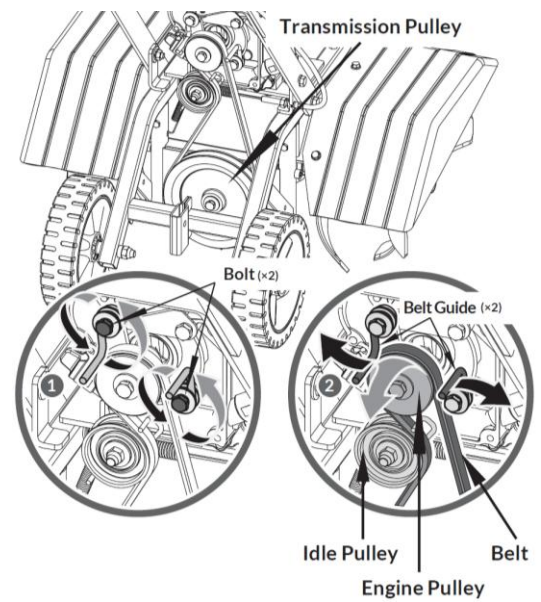

Figure 28
- Loosen the Bolts that secure the two Belt Guides to the Engine using a 13mm Wrench and leave the Guides in place (**Figure 28**).